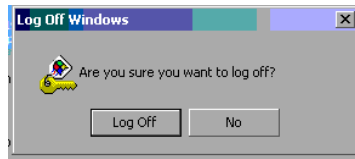

Figure 1-268. Confirm Log Off
43. A “Log Off Windows” confirmation window is displayed (Figure 1-268). Select **Log Off**.